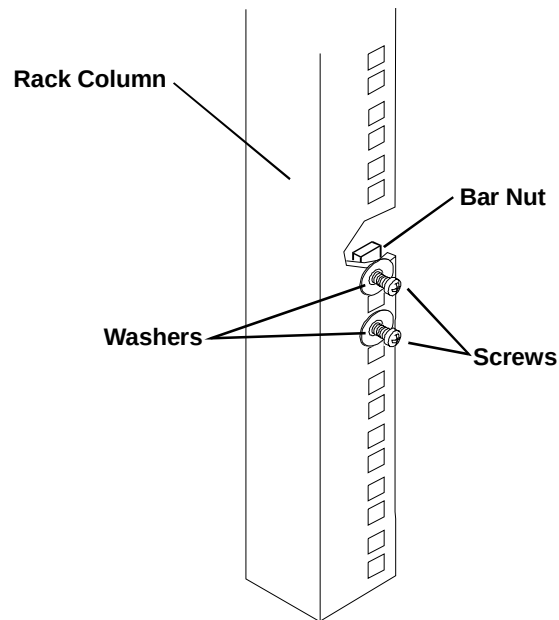

Figure 3-2. Installing Bar Nuts
2. Insert the two screws, with flat washers, through the two holes and start them into the bar nut (see Figure 3-2). Do not tighten these screws, yet.